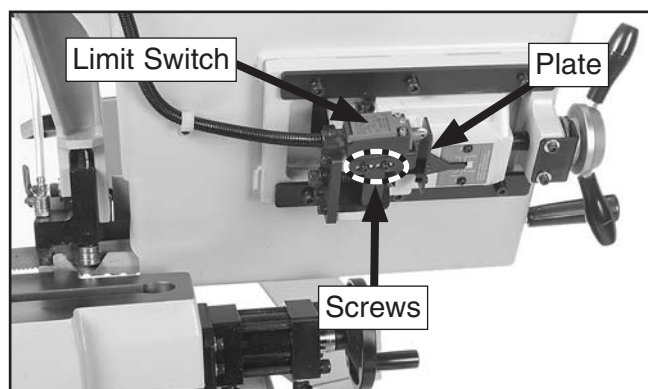

Figure 86. Blade tension limit switch screws.
3. Loosen screws that secure blade tension limit switch (see **Figure 86**) and slide switch bottom so it *just* touches switch plate.